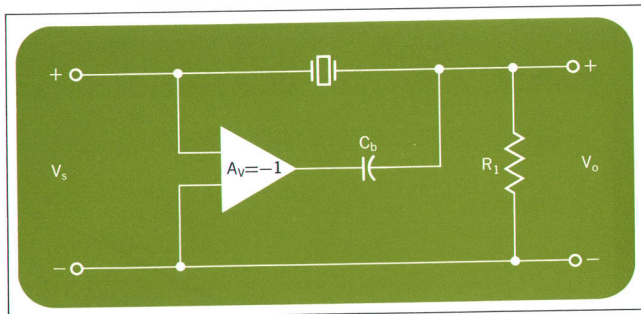

Fig. 7. Crystal filters are used for the 3 kHz, 1 kHz, 300 Hz, 100 Hz, and 50 Hz IF bandwidths. Amplifier balances shunt capacitance of crystal.
Residual FM noise sidebands of an oscillator can also be evaluated. Fig. 7 shows the spectrum of a 100-MHz oscillator. The deviation at the top of the trace shows low-frequency residual FM of about 4 kHz peak-to-peak. The 'grass' at the edges of the trace indicates a sideband noise level about 65 dB below the carrier, 10 kHz away from the center frequency.
**Fig. 4.** Spectrum of a 15-MHz signal with 10-kHz amplitude modulation. Sidebands are 40 dB below the carrier, so modulation index  $m$  is  $2 \times 10^{-40/20} = 0.02 = 2\%$ . The 70-dB display range of the new spectrum analyzer can be used to measure modulation indexes as low as 0.06%. The analyzer can also be used as a fixed-tuned receiver to recover the modulation. **Fig. 5.** The new analyzer's 50-Hz IF bandwidth can resolve signals differing by 40 dB in amplitude when they are 400 Hz apart. There are eight other IF bandwidths. This is the spectrum of a carrier amplitude-modulated at 400 Hz, as seen with the 50-Hz bandwidth. Sidebands are 16 dB below the carrier, indicating a modulation index of 30%. Second-harmonic distortion products are more than 30 dB below the fundamental. **Fig. 6.** Warmup drift of a 20-MHz oscillator, displayed on the optional variable persistence display section. Single analyzer scans were triggered every 5 seconds and the traces were stored. The oscillator drifted about 600 Hz in 80 seconds. **Fig. 7.** Spectrum of a 100-MHz oscillator. The deviation at the top of the trace shows about 4 kHz residual FM. The 'grass' at the edges of the trace indicates a sideband noise level about 66 dB below the carrier, 10 kHz away from the carrier frequency.
In the crystal filters, very-high-Q crystals and low-output-impedance amplifiers make the gain at resonance independent of bandwidth. Fig. 7 shows one of the three similar stages.  $V_s$  represents the output voltage of a feedback amplifier which has an output impedance of approximately one ohm. The voltage amplifier with a gain of  $-1$  balances out the shunt capacitance of the crystal. Bandwidth is varied by changing  $R_1$ . Overall bandwidth for the three stages of crystal filters varies from 3 kHz to 0.05 kHz. Gain at resonance remains essentially constant since  $V_s$  comes from a low-impedance source and the crystal is nearly lossless. As  $R_1$  becomes very small ( $100 \Omega$ ) some compensation for crystal losses is made in an amplifier stage.